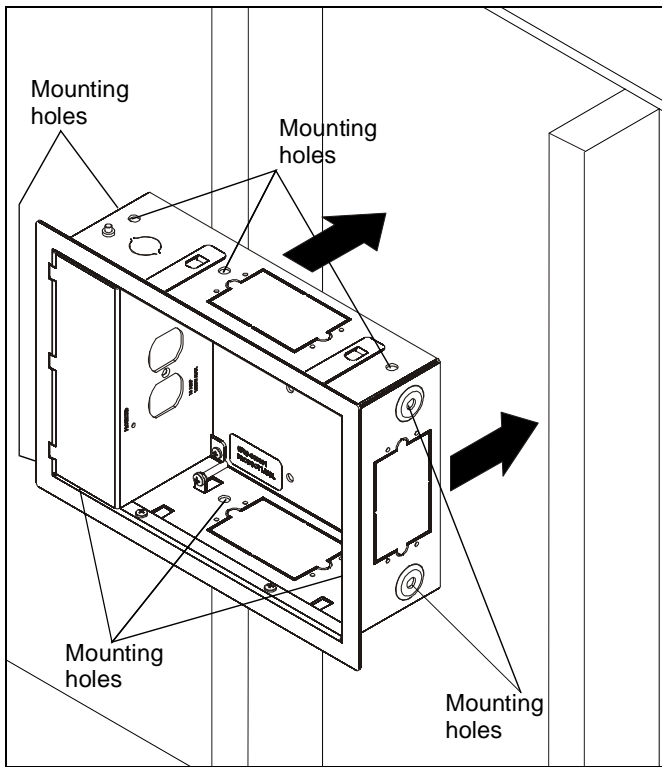

Figure 6
1. Secure PAC521N to studs. (See Figure 6)